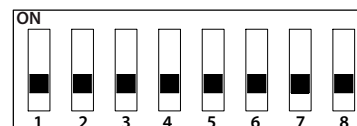

Fig. 3.f
**Dipswitch configuration:** configuration must be performed before switching on the humidifier (default position shown in Fig. 3.f).